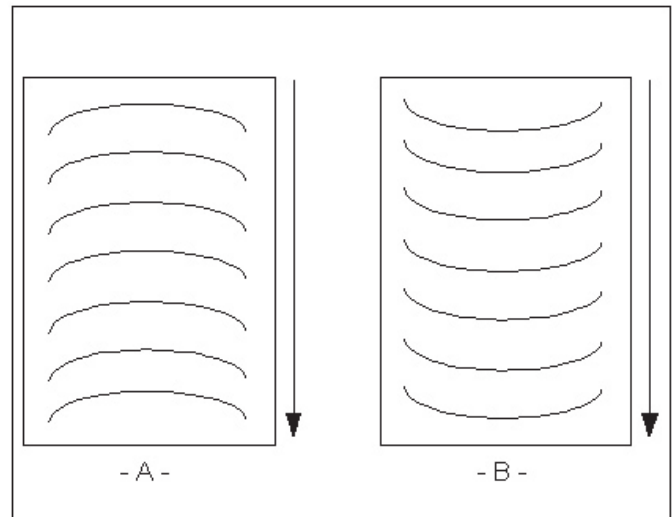

Fig 43
1. **“D” waves in the image (Figure 43 A).**
2. **“D” waves in the laminate (Figure 43 B).**
- Check for even paper tension (Figure 43 A only).